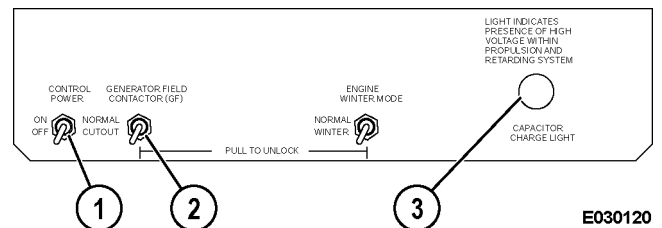

FIGURE 5-1. INFORMATION DISPLAY PANEL
6. To ensure that the link will not be energized during test and repair procedures, turn GF cutout switch (2, Figure 5-1) in the control cabinet to the CUTOUT position by pulling the switch out and moving the switch downward as shown.